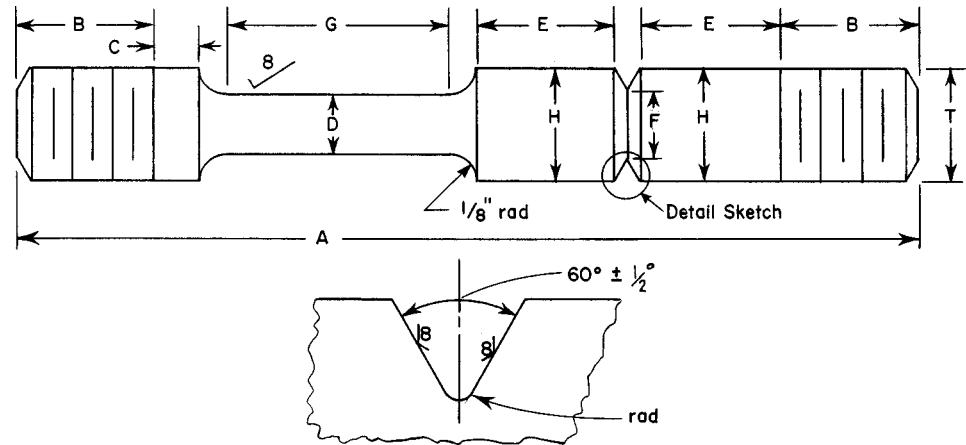

FIG. 1 Combination Smooth-Notch Stress-Rupture Test Specimen
7.2.4.2 A combination smooth and notched test specimen, machined to the dimensions prescribed in Fig. 1 and Table 7, shall be tested in accordance with the stress-rupture requirements prescribed in Table 6. The test shall be continued to rupture. The rupture shall occur in the smooth section of the bar.